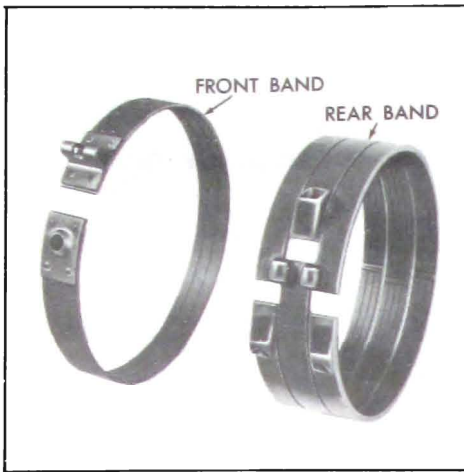

Figure 5-684
1. Inspect the lining for cracks, flaking, burning or looseness. See Figure 5-684.